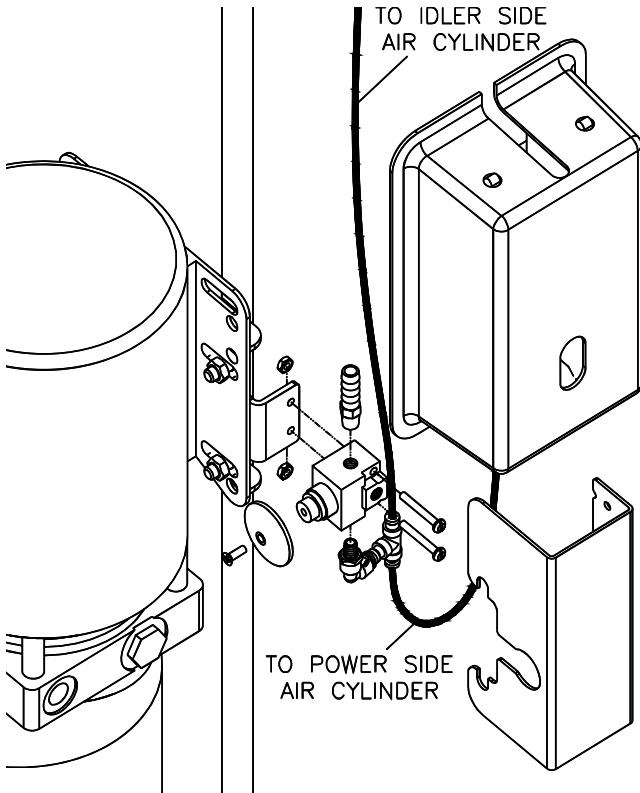

Fig. 15 – Cable Assembly
- 30) Assemble the fittings to the air valve, **Fig. 15**, with the barbed fitting (3/8" hose barb x 1/8NPT) in port marked "1", the elbow (1/8" push-lock x 1/8NPT) in port "2", and nothing in the center port "3" (exhaust).